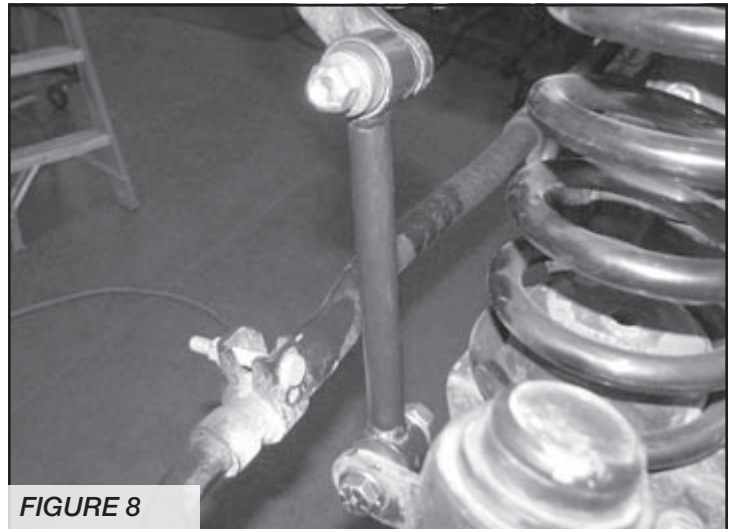

FIGURE 8
11. Locate FT50261BK Front Sway Bar End links, FT50048 & FT50089 bushing and sleeve kits. Press one bushing and one sleeve from the supplied bushing kit into each end of the end link. With the factory hardware, connect the new end link to the sway bar, then using the supplied 1/2" x 2-3/4" bolt, nut and washers, connect to the lower sway bar mount. Torque the sway bar hardware to 45 ft-lbs. SEE FIGURE 8